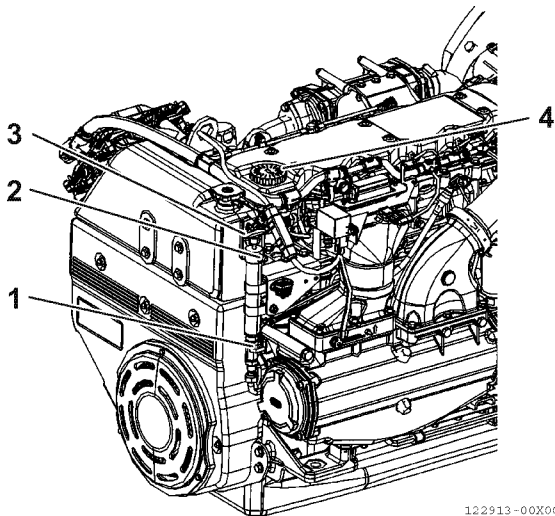

Figure 7
- Place a container under the hand pump (**Figure 7, (3)**) at the outlet pipe (**Figure 7, (2)**) to collect the spent oil.
- Open the extraction cock by setting the lever (**Figure 7, (1)**) to the vertical position.
- Loosen the oil filler plug (**Figure 7, (4)**) and act on the hand pump (**Figure 7, (3)**) required to extract the oil until the oil sump is completely empty.
- Using the dipstick (**Figure 7, (4)**), check that the oil level is between the "Min" and "Max" levels.
- Close the cock by lifting the lever (**Figure 7, (1)**) to the horizontal position.